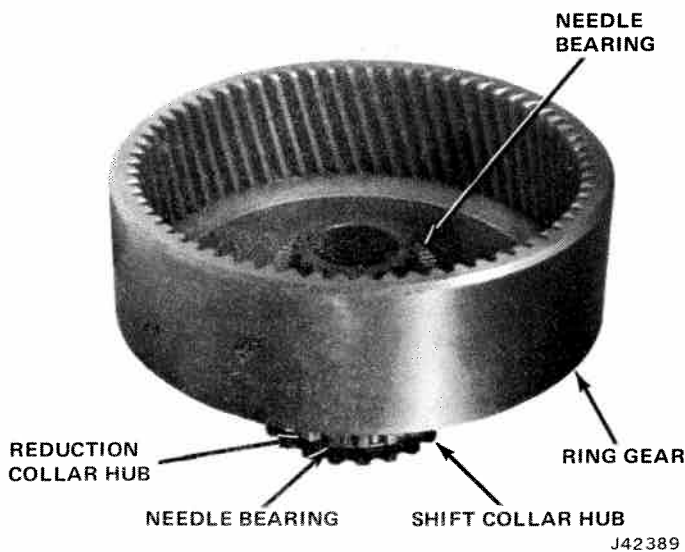

Fig. 8-38 Ring Gear
(27) Place ring gear, reduction collar plate and hub assembly onto shift collar hub (fig. 8-38). No needle bearing is used between reduction collar plate hub and reduction collar hub.